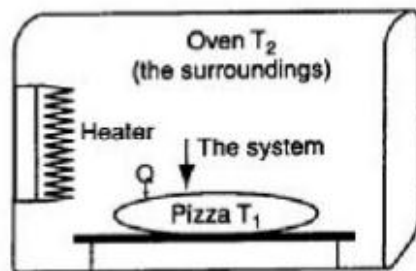

Figure 3 Heat transfer is energy crossing the system boundary because of a temperature difference.
In a discussion of *heat* we enter an area in which our everyday use of the term may cause confusion, since we are going to use heat in a very restricted sense when we apply the laws governing energy changes. **Heat (Q)** is commonly defined as that part of the total energy flow across a system boundary that is caused by a temperature difference (potential) between the system and the surroundings (or between two systems). See Figure 3. Engineers say “heat” when meaning “heat transfer” or “heat flow.” Heat is neither stored nor created. **Heat is positive when transferred to the system.**